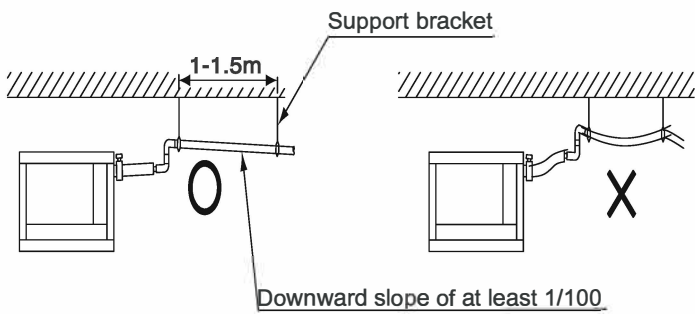

Fig. 10
- Install the drain piping as short as possible with downward inclination of 1/100 or more and such that air may not stagnate. (Refer to Fig.10)
- Install supports at a distance of 1 to 1.5m so that the piping may not deflect. (Refer Fig.10)
- Make sure to use the attached drain hose (2) and the metal clamp (1).